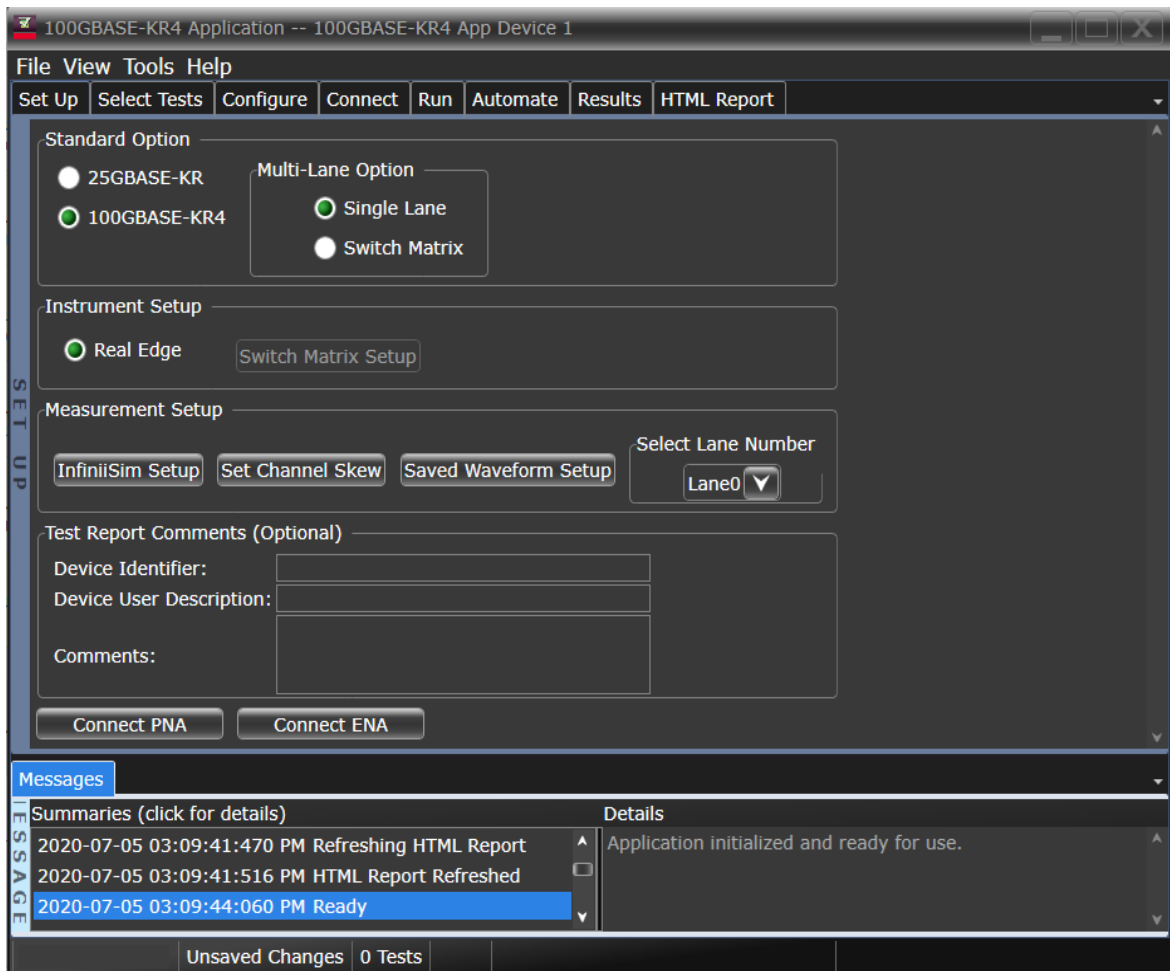
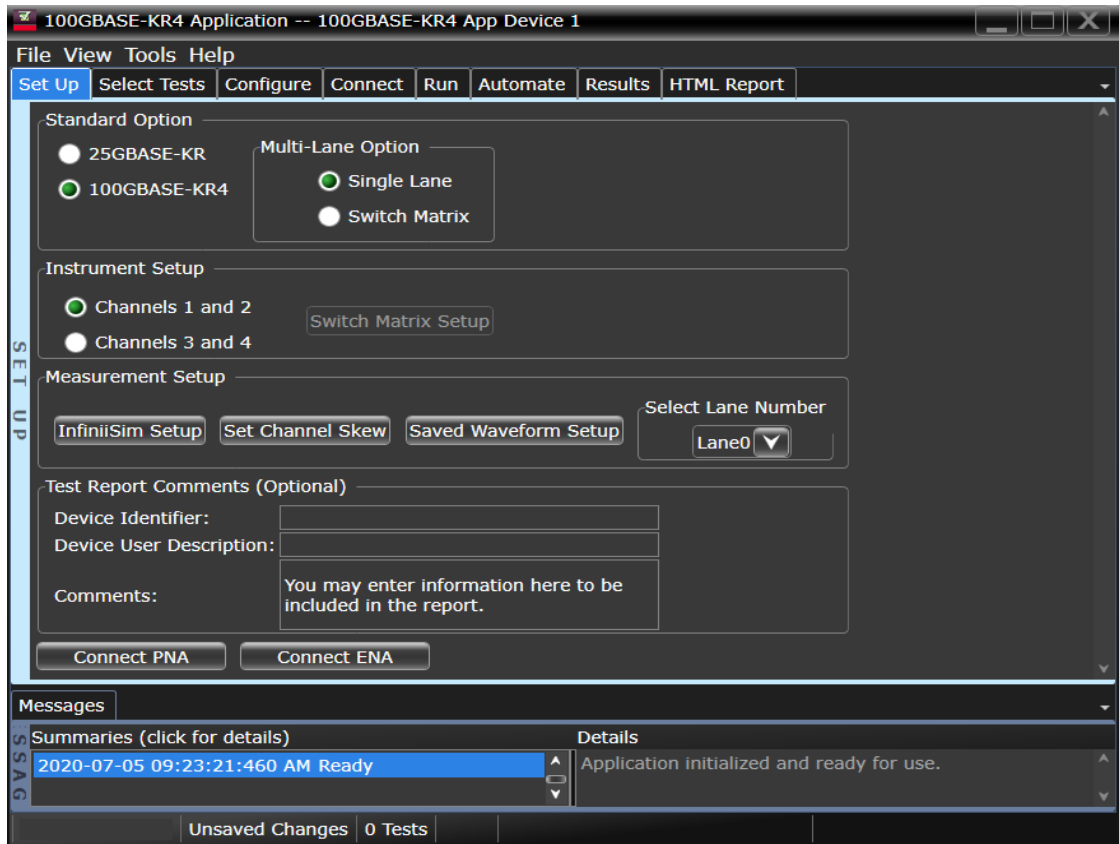

Figure 5 100GBASE-KR4 Test Application main window on a Z-Series DSO (100GBASE-KR4 option)
Figure 7 100GBASE-KR4 Test Application main window on a UXR Oscilloscope (100GBASE-KR4 option)
- **Figure 5** shows the Keysight D9010BJBC 100GBASE-KR4 Test Application window as it appears when launched within the Infiniium application of the DSO Q-Series Oscilloscope. The Instrument Setup area in the Set Up tab displays Real Edge, which indicates Channels 1R and 3R on the oscilloscope.
- Figure 7 shows the Keysight D9010BJBC 100GBASE-KR4 Test Application window as it appears when launched within the Infiniium application of the UXR Oscilloscope. The Instrument Setup area in the Set Up tab displays the corresponding Channel assignments.
- 1 In the **Set Up** tab (shown in Figure 5 and Figure 7), select a **Multi-Lane Option** to determine the lane where the tests must be performed for the 100GBASE-KR4 standard.
- 4 In the **Connect** tab, view the instructions along with the connection diagram to ensure that all requirements for the physical setup of the testing instruments and the DUT are met. Click **Connection Completed** to indicate to the Test Application that the required hardware setup is complete. The connection diagram for most of the tests matches the one shown in Figure 5 for
DSO-Q Series Oscilloscopes and Figure 7 for UXR Series Oscilloscopes. However, it is a good practice to verify the connection diagram and instructions displayed under this tab. The Test Application automatically indicates any changes in connections, if needed, during test runs.